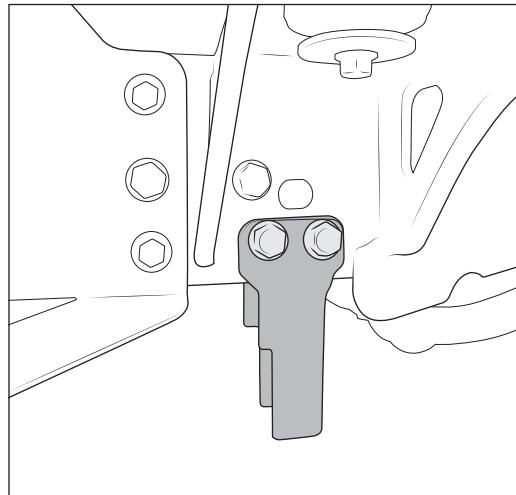

Figure 1
1. If your vehicle is equipped with compatibility beams (fig. 1), remove the four bolts securing them to the frame. Save hardware. NOTE: We recommend applying rust prohibitor or paint to the exposed frame.